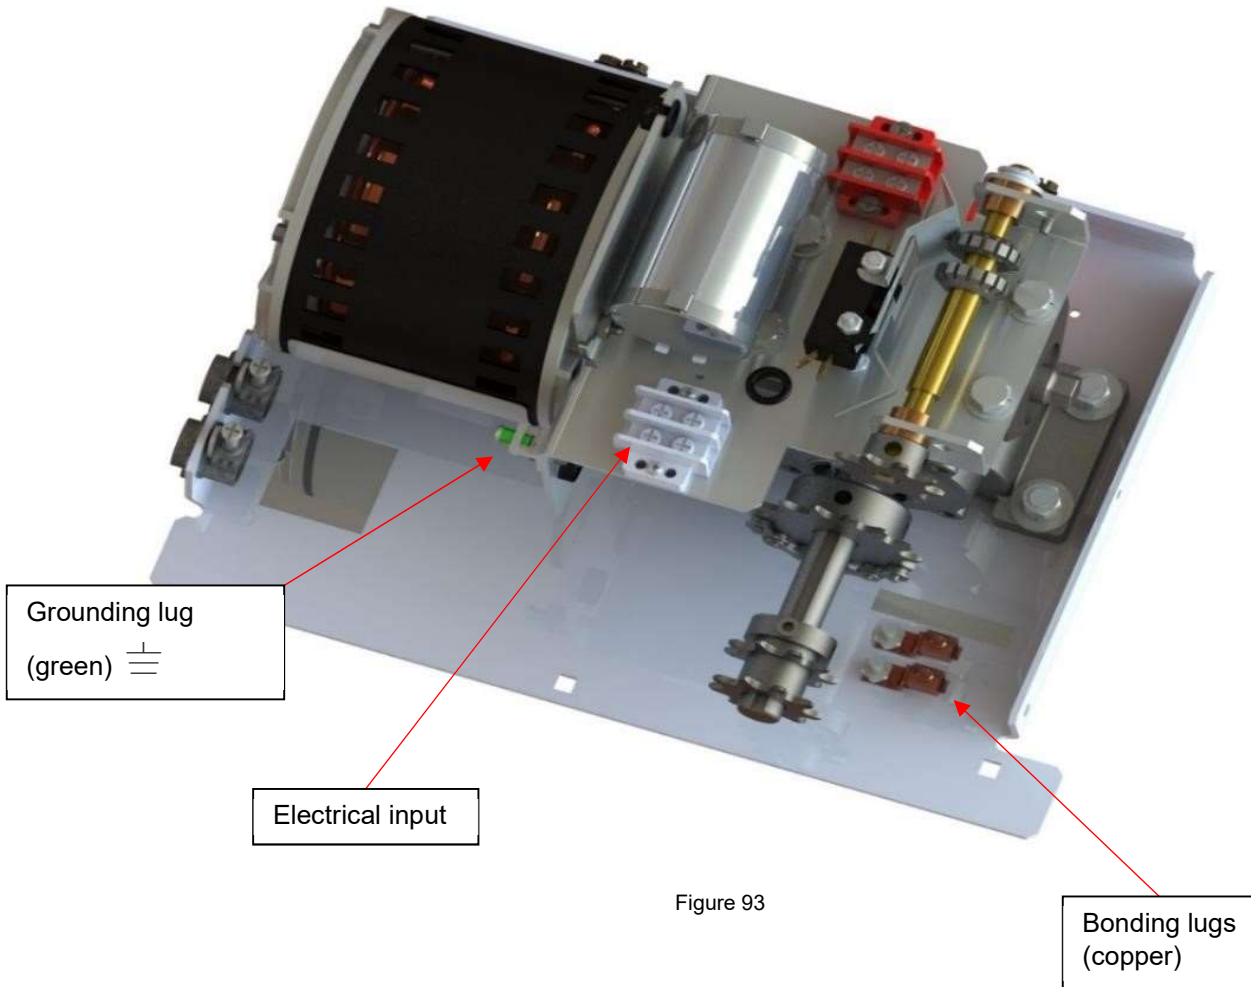

Figure 93
- 1) Remove the four screws on the bottom side of the COVANA operator and remove the cover. (Figure 93)